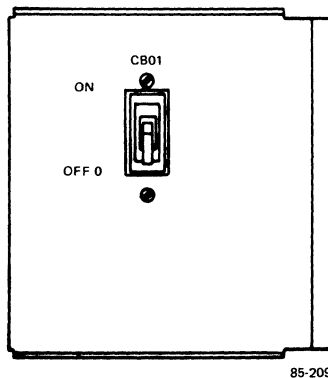

Figure 2-33. Power Distribution Unit (Front View)
Prior to performing step 5, ensure that the PDU circuit breaker is in the OFF position (see Figure 2-33).
1. Open the front door of the disk drive cabinet and place the PDU circuit breaker in the OFF position (see Figure 2-33).